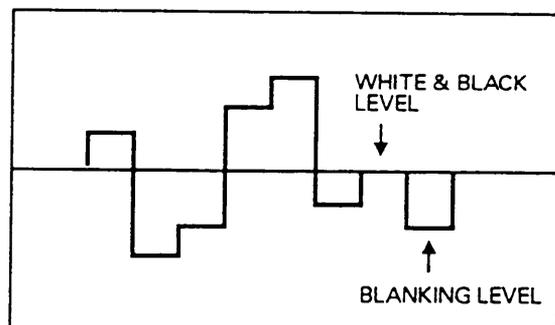

Fig 17. R-Y output Response Waveform
- 3) Adjust L502 (R-Y REFERENCE COIL) so that the white/black level is the same as blanking level. (Fig.17)